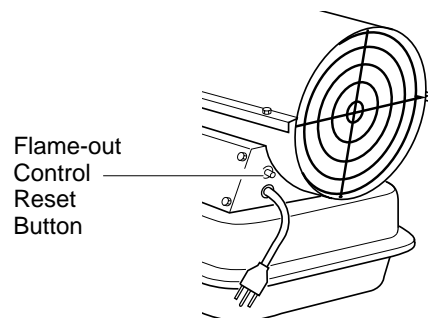

Figure 4 - Flame-out Control Reset Button
5. Plug extension cord into standard 120 volt/60 hertz, three-hole, grounded outlet. Adjust thermostat to desired setting. If heater does not start, thermostat setting may be too low. Turn thermostat knob to higher position to start heater. If thermostat is in HIGH position and heater still will not start, push in flame-out control reset button (see Figure 4). *Note:* A cold heater may affect the thermostat setting. This thermostat is a general-heating control. It is not intended for precise temperature control. Adjust thermostat until heater cycles at the desired setting.